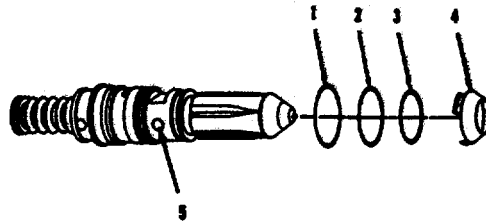

FIGURE 2-51. *Injector Inspection.*
- a. Remove O-rings (1, 2, and 3, FIG. 2-51).
- b. Remove sealing ring (4).
- c. Use a clean cloth that does not have any lint. Clean the exterior of the injector. Closely check the area where the sealing ring (4) contacts the injector.
- d. Check the orifice screen (5) for cleanliness. If any debris is found on the screen, remove the retaining clip and the screen, clean the screen, install the screen and the retaining clip.